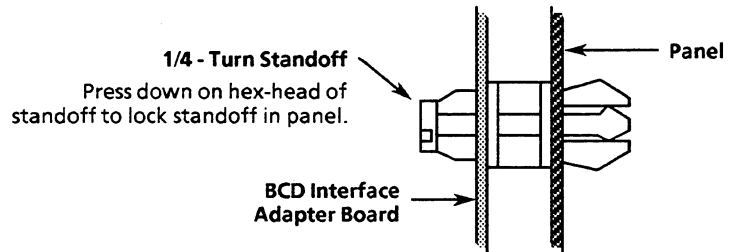

Figure 2 – Board Installation
6. Install the board onto the standoffs and lock in place. See Figure 2.